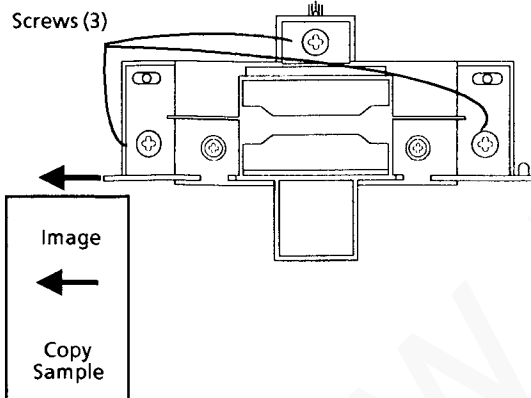

Figure 1. Adjusting the Document Glass Front-to-Rear Registration
3. Loosen the screws (3) and move the Lens as shown in order to move the image as shown on the copy sample (Figure 1).